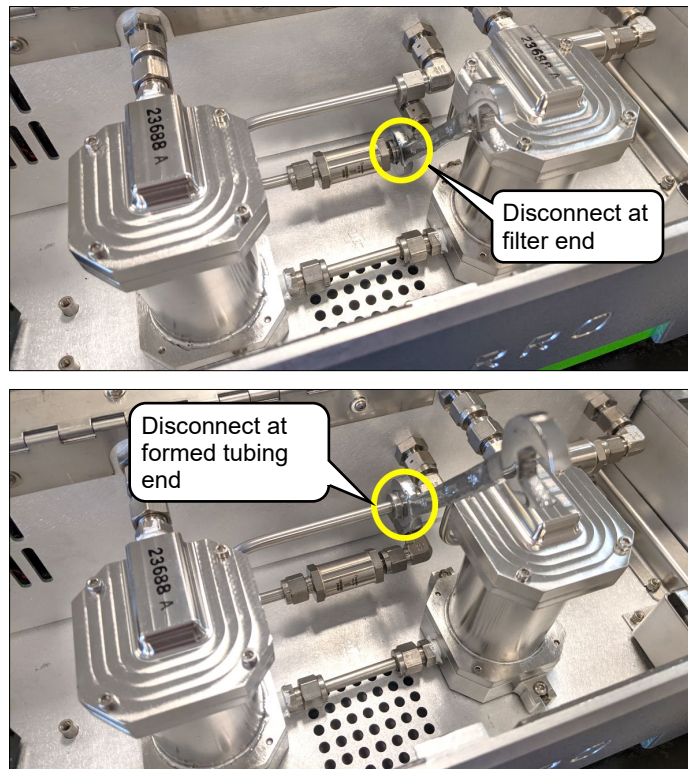
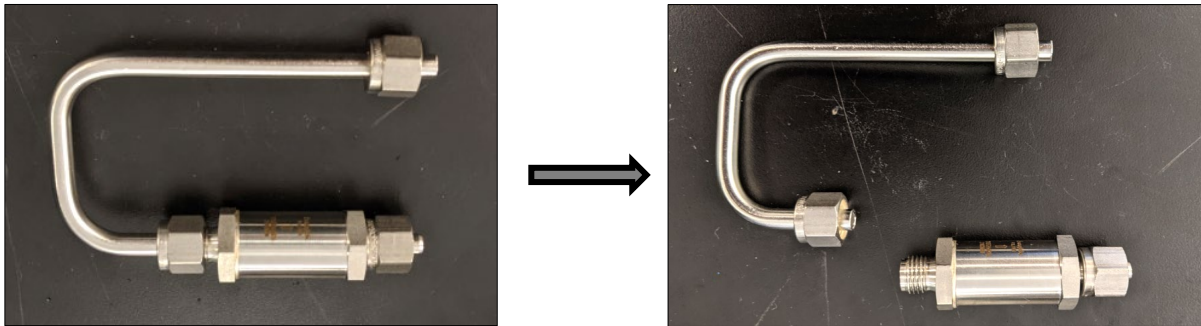

Figure 58: Disconnecting Filter with Attached Formed Tubing
Figure 59: Disconnect Formed Tubing from Filter
- Disconnect the two Swagelok connections shown in Figure 58 and remove the filter along with the formed tubing (Figure 59).
7. Tighten the two Swagelok connections shown in Figure 58. (Recommended Swagelok tightening is 1/4 turn past finger tightened.)